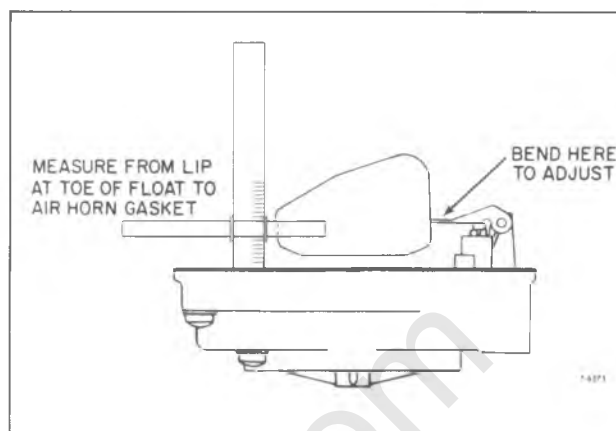

Figure 23—Float Level Adjustment (Model 2G)
6. With air horn inverted, gasket in place and needle seated, measure distance from lip at toe of float to air horn gasket. Adjust float to specification (float level) by bending float arm (fig. 23).